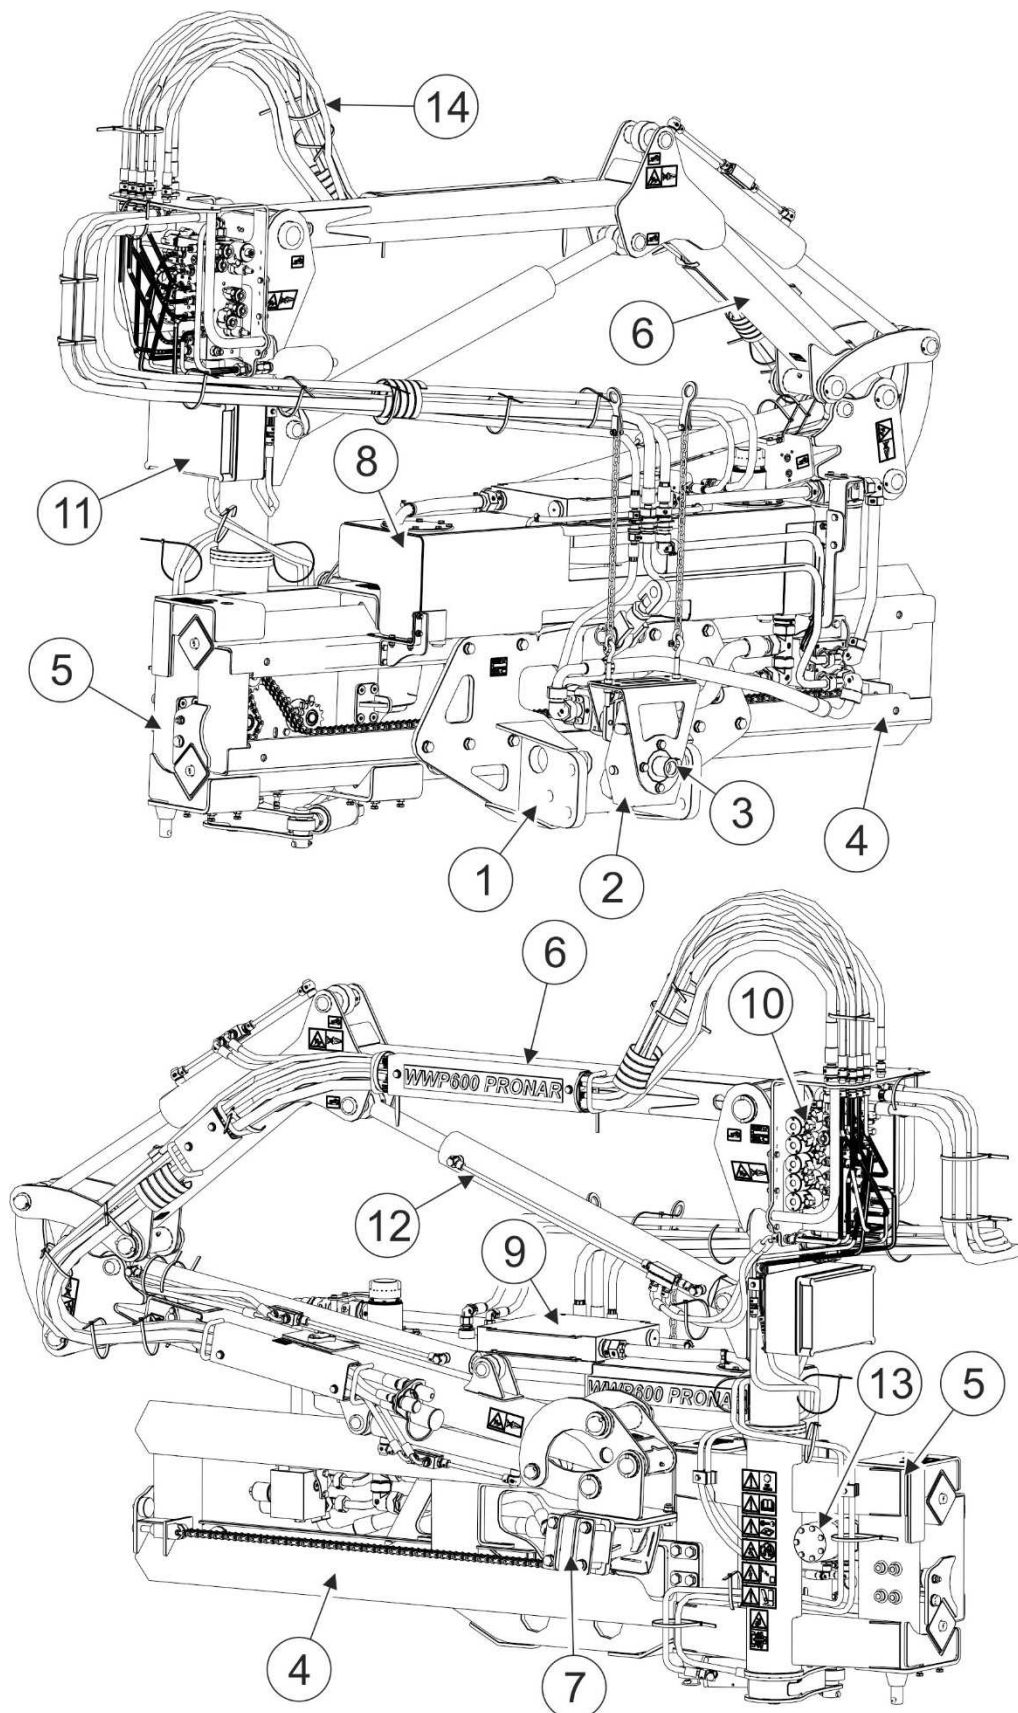

FIG. 3.1 General design
The adapter plate is bolted to guide (4) (FIGURE 3.1) of support system slide (5). Slide (5) is connected with hydraulic motor (13) and enables movement of the support system on guide (4) to the left or right with regard to the tractor. This enables operation of the multifunction arm on the right as well as on the left side of the tractor.